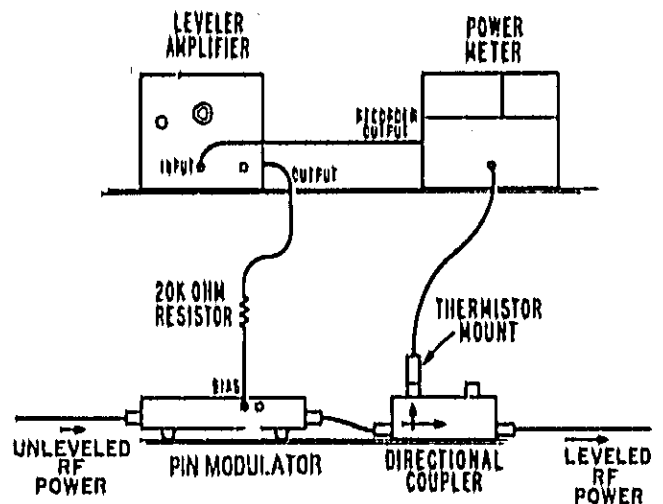

Figure 10. Typical Closed Loop Leveling System
39. For certain applications, it may be desirable to level and amplitude modulate a given RF power level with the same PIN Modulator. This can be accomplished by simply setting up a closed loop leveling system and adjusting the reference attenuation level to a point equal to the peak amplitude of the desired modulating signal. For this type of dual application the modulating signal can be applied directly to the leveler amplifier in the system shown in Figure 10.
44. If any part of the bias input assembly (Figure 10) is damaged, it can be replaced separately. However, it is good practice to replace the entire assembly. To check bias input assembly, remove the PIN Modulator and measure its resistance with an ohmmeter.